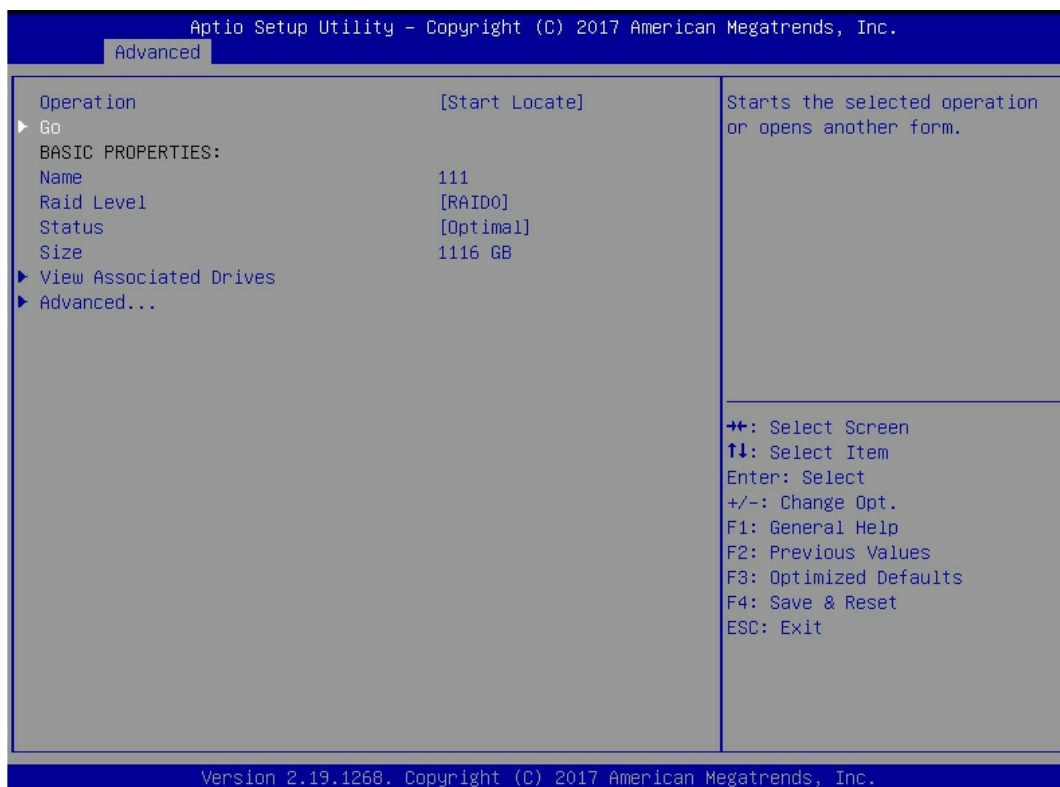

Figure 6-63
- d) Enter the interface shown in figure 6-63, select go and press enter.
✧ Figure 6-63 select go